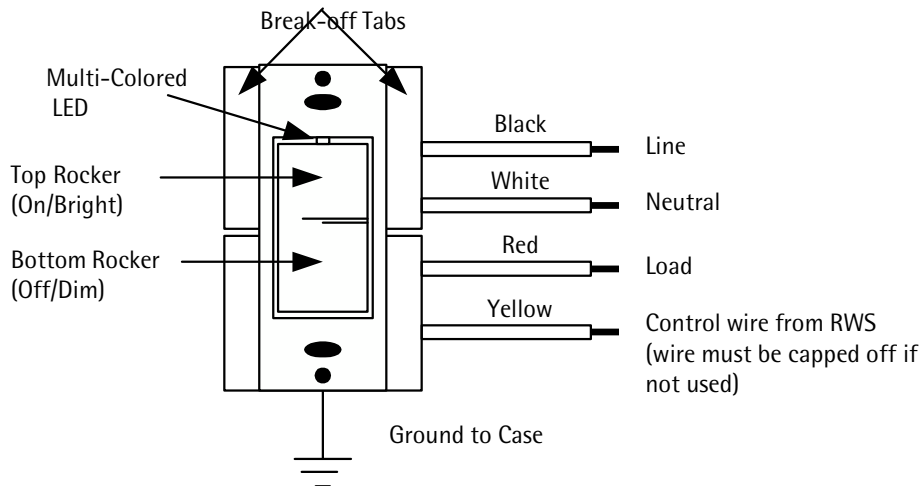

Figure 1: WS1DL Wall Switch Dimmer
The WS1DL Wall Switch Dimmer (Figure 1) is a high quality light-switch/ dimmer that not only allows for local rocker switch control of a lighting load but also incorporates PCS's innovative UPB™ two-way powerline communication technology that gives it the ability to be remotely controlled by other UPB™ compatible controllers. The WS1DL is highly configurable to allow for behaviors customized to each individual's desires. The WS1DL is capable of storing up to 16 preset light levels and fade rates to create powerful lighting scenes. The WS1DL is also capable of transmitting UPB™ messages (including a current light level report) when rocker switch events occur. The WS1DL is capable of being set to a non-dimming mode in order to control such loads as fluorescent lights.
1. Refer to Figures 1 and 2 to determine the wire colors of the hook-up.
For a proper fit in a multiple gang installation, it may be necessary to remove one or both sides (break-off tabs) from the mounting plate (see Figure 1). When tabs are removed, the overall rating of the device must be reduced in accordance with the following chart: